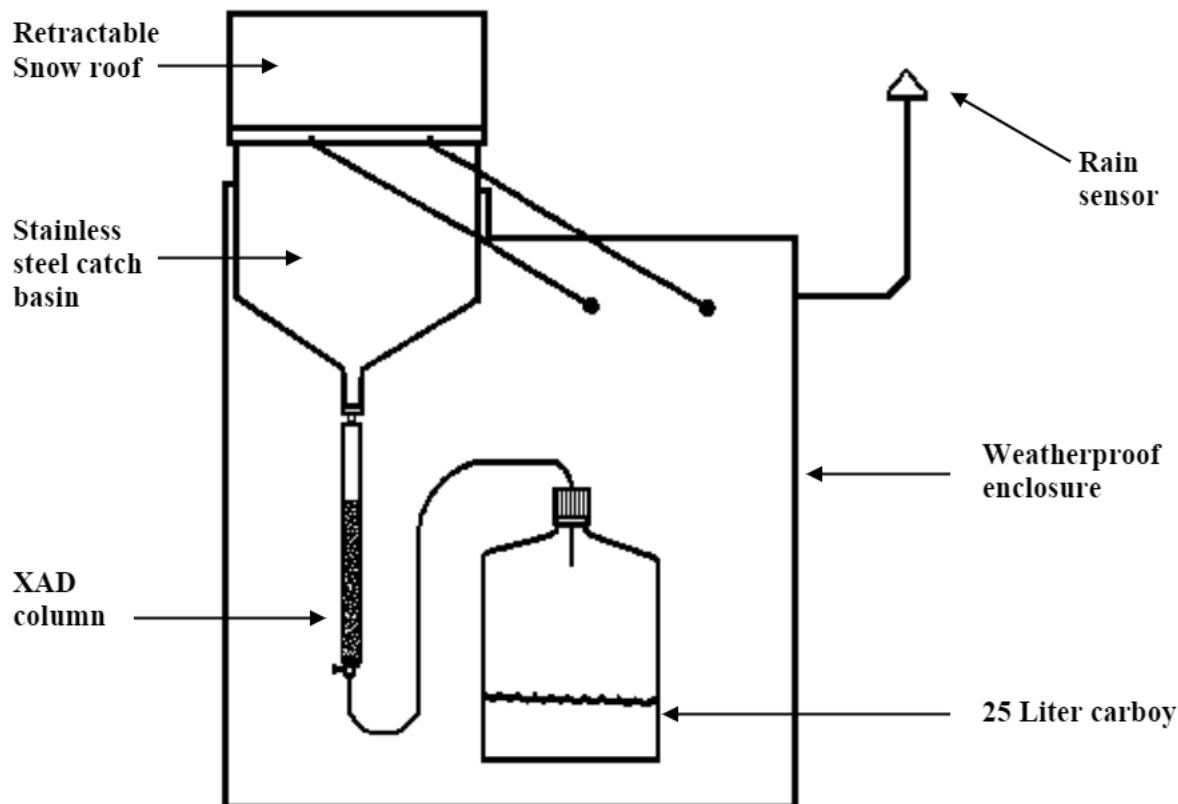

Figure 2. Schematic of the MIC Precipitation Collector
A diagram of the MIC sampler and XAD column assembly is shown in Figure 2. General maintenance and trouble shooting are covered in section 1.5.
3) Rinse the collection surface with about 200 mL of DI water (one wash bottle full) while wiping with the piece of precleaned glass fiber filter sent with the monthly supplies. This step removes adhering particles from the collection surface. Allow rinsings to pass through the column until the water level is halfway between the top of the resin bed and the top of the column (see Figure 2). If the temperature is so cold that water freezes on contact with the funnel, simply wipe of the collection surface with a dry piece of filter and go to Step 4.